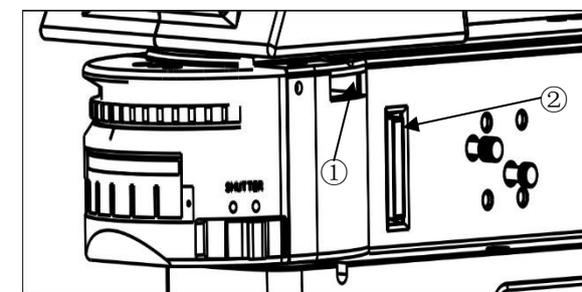

Fig.26
**3-21 Use the polarizer and analyzer (Fig.26)**
1. The polarizer (Fig.27) with a screen print face forward, insert it into the polarizer slot (Num.② Fig.26), and then move the polarizer into the light path.
2. After the dust cover is removed, the analyzer (Fig.27) is pushed into the slot (Num.① Fig.26).
3. Turn the polarizer rotor (Num.③ Fig.26) to find the darkest position in the field of view.